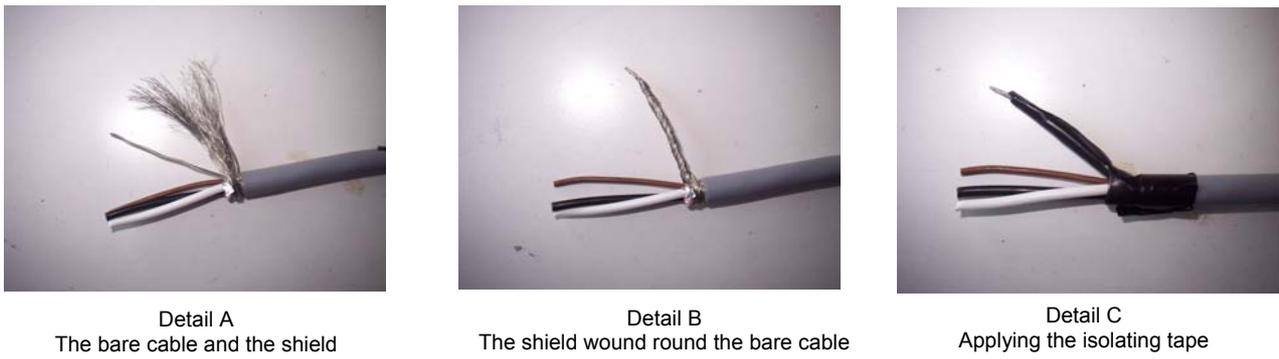

Figure 21 Connection for CAN BUS cable shield
3. If the bare cable is in contact with the shield, wrap the shield tightly round it leaving a free length of 5-6 mm. If it is not, separate a part of the wires from the shield (in a quantity that will then be possible to fit into the terminal block) and plait to obtain a cable, then wind the rest of the shield tightly round it as above, leaving a free length of 5-6 mm. (Figure 21 details A and B).
4. Apply isolating tape to shield section between cable and the end of the wire, leaving a free length of 5-6 mm, (Figure 21 part C).
7. **For intermediate nodes only:** Repeat operations from points 1 to 6 for the other CAN BUS cable section end necessary, referring to Figure 20. Figure 21 and the diagram shown in Figure 23.